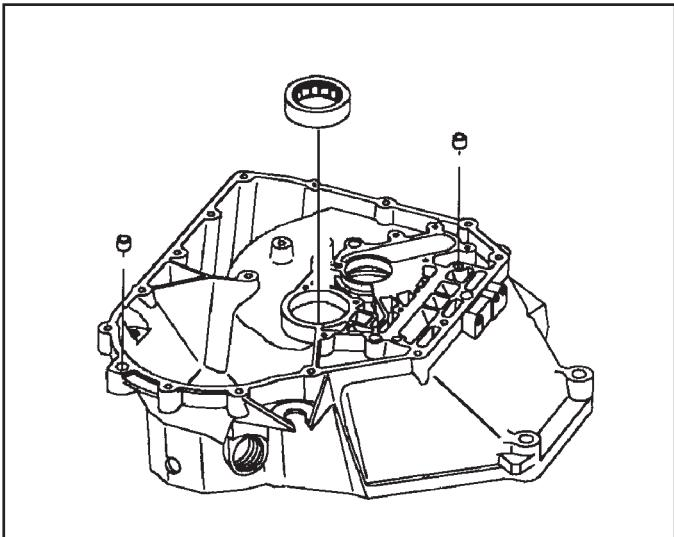

Figure 153
- With the press fixture tool installed on the front of the converter housing, flip the case half over and press in the output shaft roller bearing using Saturn's bearing installer SA9114T or equivalent (See Figure 153).